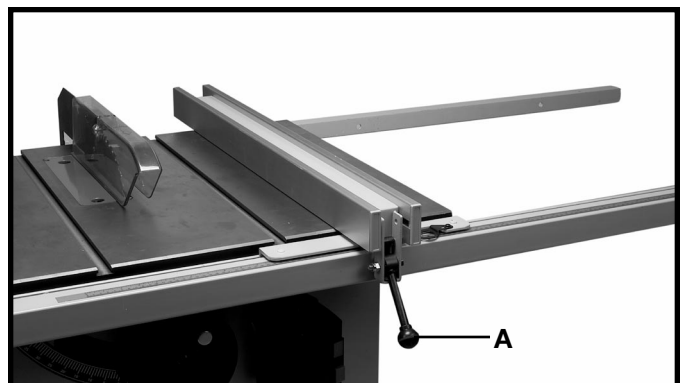

Fig. 10
2. Push down on fence clamp (A) Fig. 10 to lock fence in place.